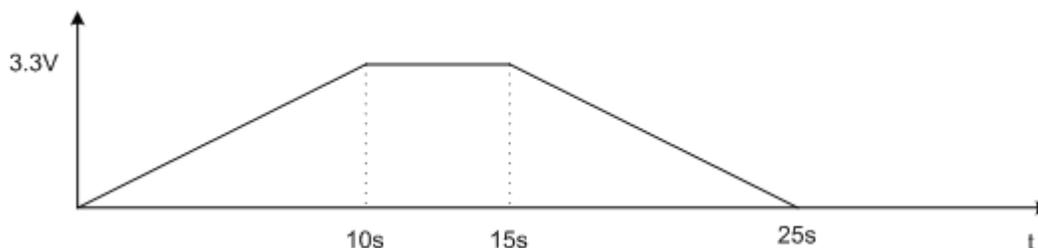

Figure 16. Power-On Sequence
1. Power up MSP430F4481 first. Wait 10 seconds and slowly power up MSP430AFE253, as shown in Figure 16. See if MSP430AFE253 is dead.